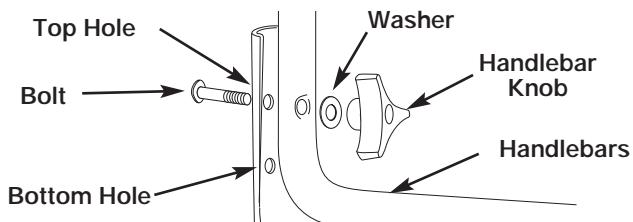

Fig. 2
1. Remove the knobs and mounting bolts and reinstall them through either the top or bottom holes in the handlebar assembly (Fig. 2) in order to adjust the height of the handlebars.